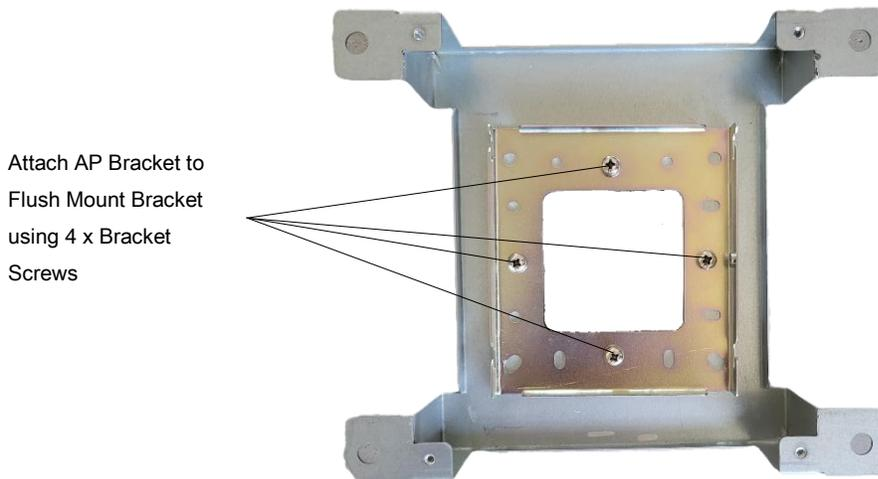

Figure 29: APV3-BDA - Mounting Standard Mounting Bracket to Flush Mount Bracket
- Install the APV3-BDA standard mounting bracket into the flush mount bracket using the (4) screws removed in the previous step. Ensure the standard mounting bracket is installed with the HEX Screw hole on the right side. See Figure 29 below.